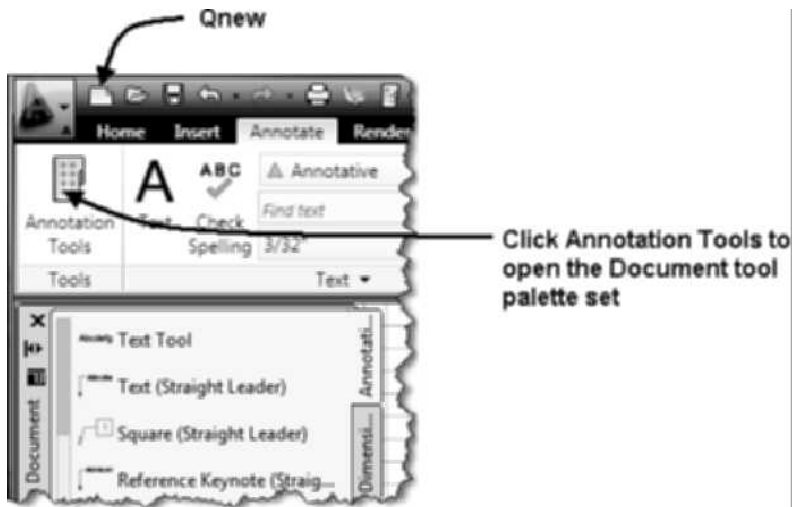

FIGURE 1.32 Accessing the Document palette group from the Ribbon
5. Choose **QNew**, shown in Figure 1.32, from the Quick Access toolbar.
9. Click twice the Annotation Tools button of the Tools panel to display the Document tool palette set as shown at left in Figure 1.32.